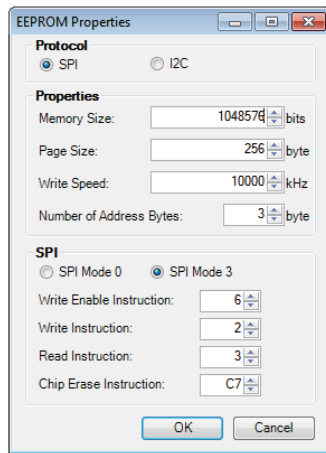

Figure 71. EEPROM Properties Window and Required Settings
8. An **EEPROM Properties** dialog box appears. Enter the values shown in Figure 71 to the text fields and then click **OK**.